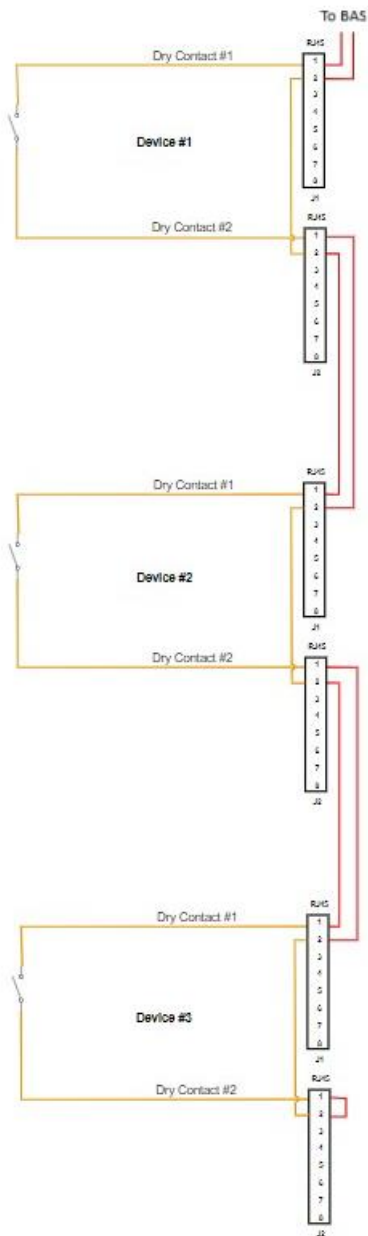

Figure 14: Dry contact external wiring - multiple units with chaining.
4. If there are multiple units in a chain to be monitored, the units are wired to the BAS as in Figure 14.